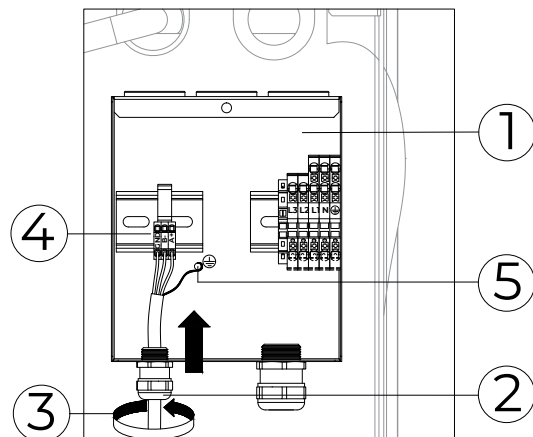

Figure 19: Connecting the communication cable
Thread the communication cable (3) (Figure 19) through the cable gland (2). Affix the wire to the terminal and tighten the cable gland (2). Attach the conductors to terminals A+, B-, GND (4) in the same order as in the indoor unit. Connect the communication cable to the electrical box's housing by properly grounding it (5).